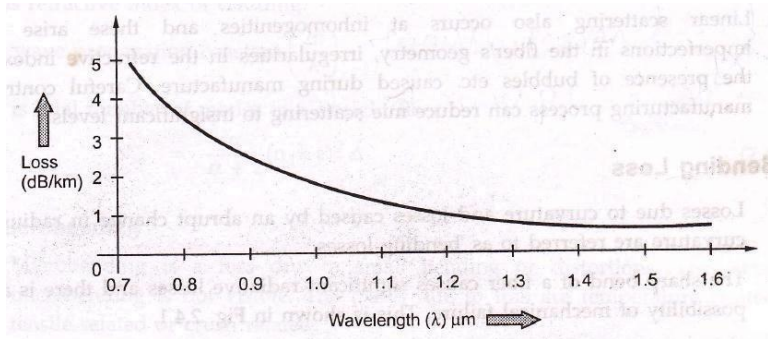

Fig. 2.3.1 Scattering loss
4. The other cause is slight change in density as the silica cools and solidifies. When a light ray strikes such zones it gets scattered in all directions. The amount of scatter depends on the size of the discontinuity compared with the wavelength of the light so the shortest wavelength (highest frequency) suffers most scattering. Fig. 2.3.1 shows graphically the relationship between wavelength and Rayleigh scattering loss.